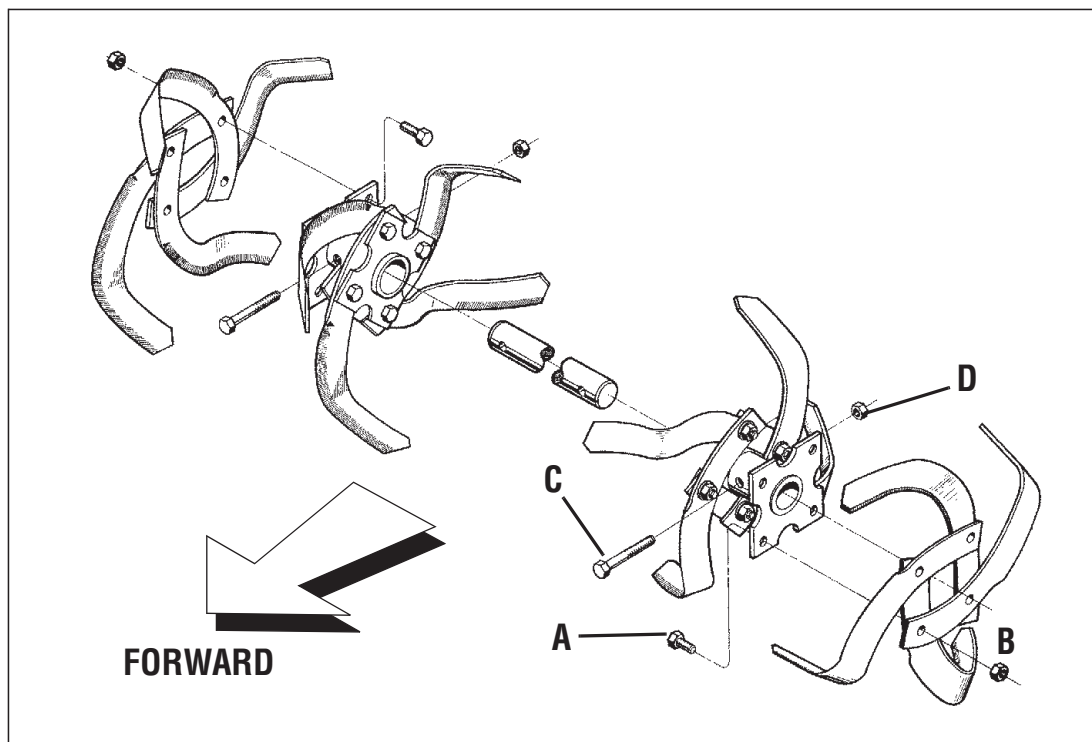

Figure 5-3: Install tines so that cutting edge of tines enter soil first when tiller moves forward.
1. With the engine shut off and the spark plug wire disconnected, remove the two screws (A, Figure 5-3) and nuts (B) that attach a single tine to a tine holder. If needed, use penetrating oil on the nuts.
- If removing both tine assemblies, mark them "left" and "right" before removal. Remove the screw (C, Figure 5-3) and locknut (D) that secure the tine assembly to the tine shaft. If necessary, use a rubber mallet to tap the tine assembly outward off the shaft.